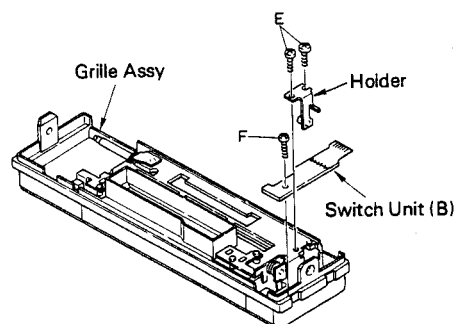

Fig. 6
1. Remove the two screws labeled "E" and take off the holder. The holder supports the display unit and allows it to turn, so it should be slid to the side and removed. (Fig. 6)